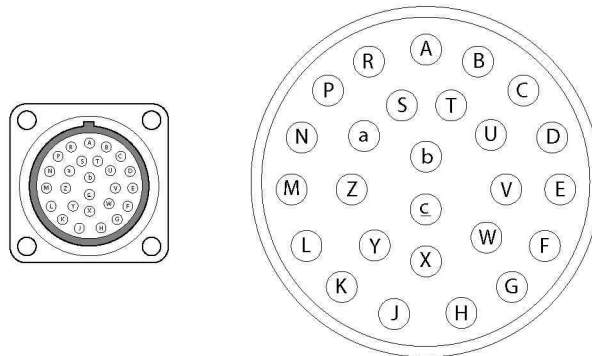

Figure 7—Main I/O Connector
5. To trigger a read, apply 0 Vdc to digital input 1. As shown in the previous table and in Figure 7, digital input 1 is pin “a” on the Main I/O connector.